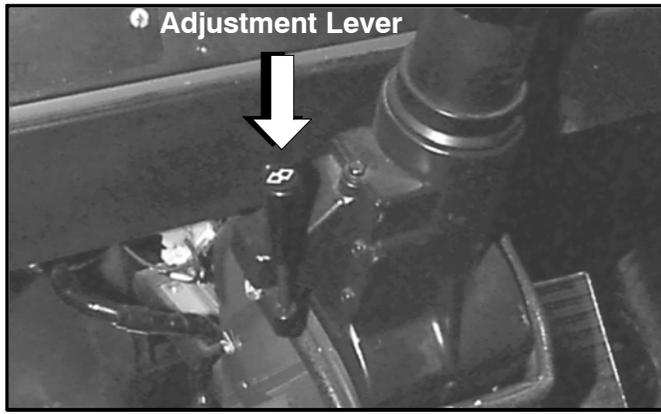

FIGURE 28
The adjustable tilt and telescoping steering column control lever is located on the left side of column (Figure 28). Tilt angle can be adjusted to four positions, in addition to being adjusted up (OUT) and down (IN) as required. Before making any adjustment, position seat properly.